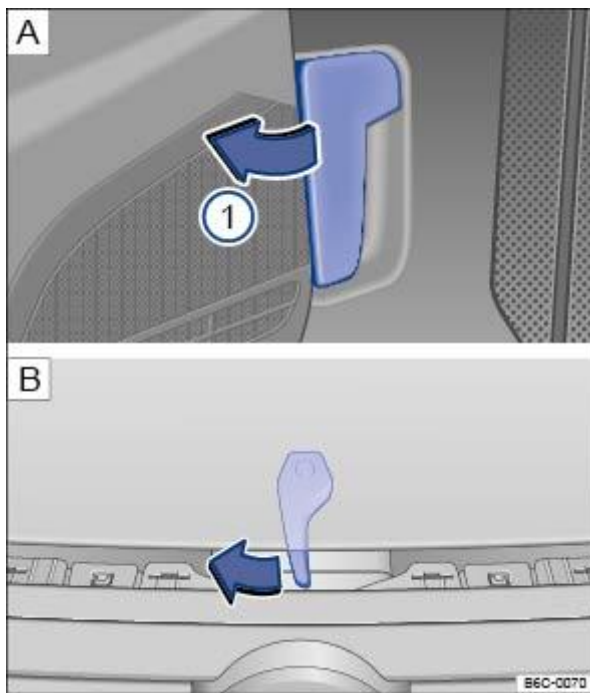

Fig. 182 In the footwell on the driver side: bonnet release lever. Above the radiator grille: bonnet opening lever.
☐ Open the driver door and pull the release lever in the direction of the arrow ⇒ Fig. 182 .  ① .
☞ Lift the bonnet slightly and at the same time press the opening lever in the direction of the arrow ⇒ Fig. 182 .  in order to fully open the bonnet.